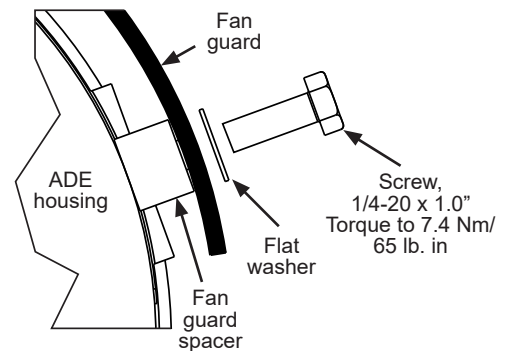

Figure 2: N1245 Fan Guard Hardware Stacking Order
- b. Reposition fan guard as required with hardware stacked as shown in Figure 2. Apply a threadlocker such as Loctite® 222 or equivalent on screw threads per manufacturer's instructions. Torque screws to 7.4 Nm/65 lb. in.